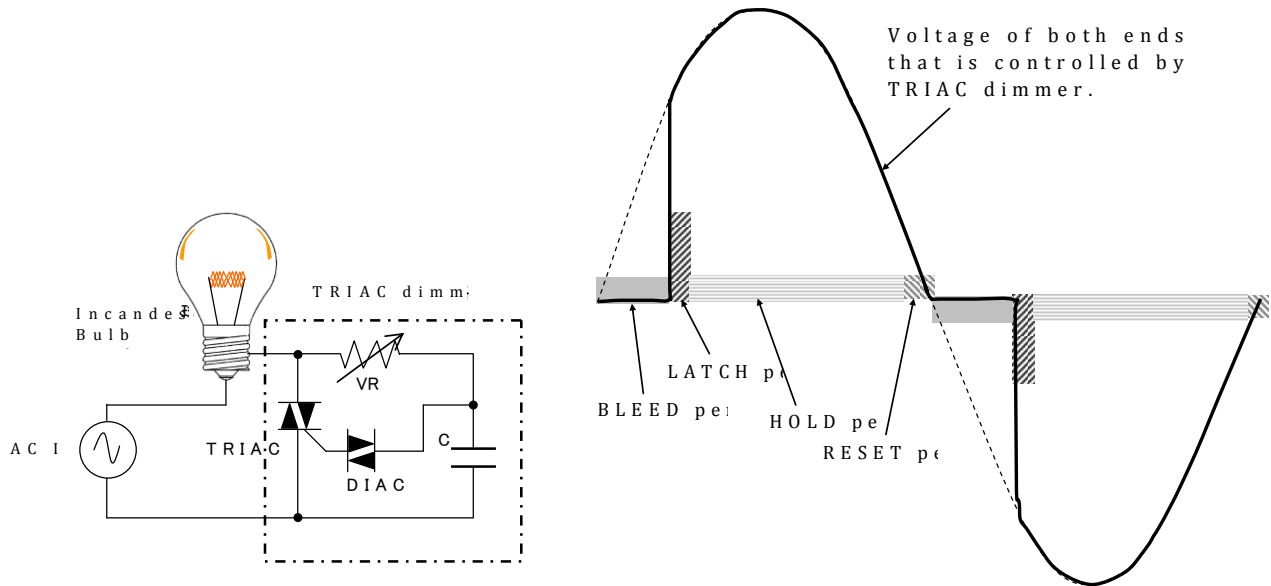

Figure 12. TRIAC dimmer
As shown in Figure 12, a TRIAC Dimmer for resistive loads like incandescent lamps performs dimming by changing the input power which is controlled by cutting any angle of the phase for the input sine-wave. The time constant determined by the Variable resistor (VR) turns the TRIAC (bidirectional thyristor) on in the dimmer and supplies the power to the load. The TRIAC sustains its conduction once turned on until the current to sustain the operation becomes lower than the threshold.
AP1601 is a switching power supply, but to be compatible with a TRIAC Dimmer, it needs to emulate a resistive load for the TRIAC Dimmer (between the BLEED period and RESET period in Figure 12).